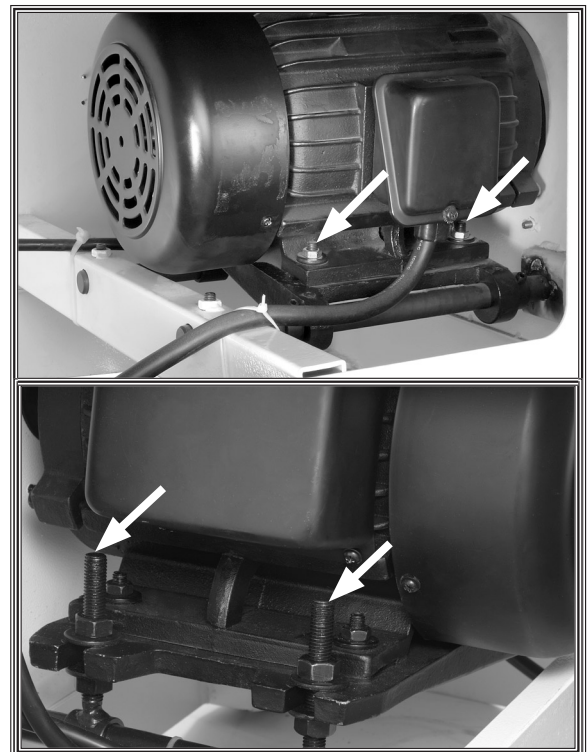

Figure 39. Motor mount fasteners.
3. Using a 14mm wrench, loosen the motor mount fasteners shown in **Figure 39** just enough to allow the motor to be repositioned.